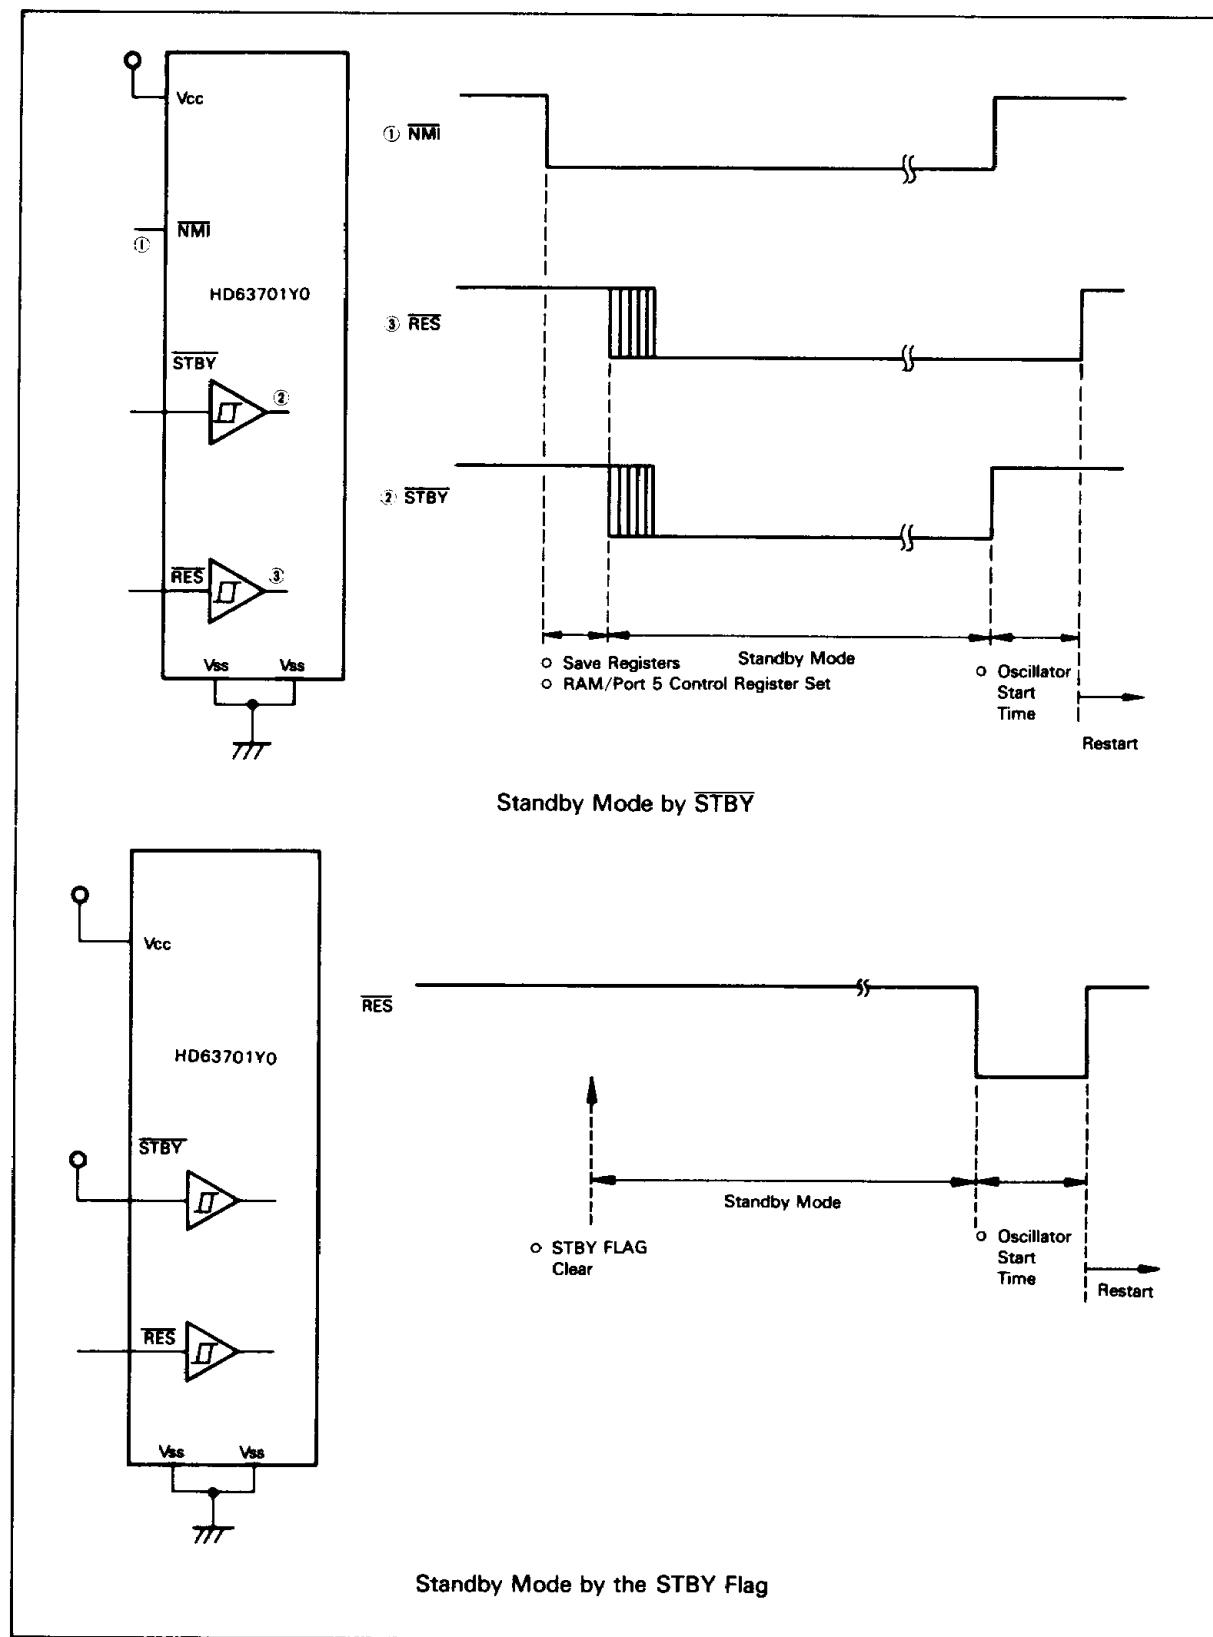

Figure 5. Standby Mode Timing
**Standby Mode**: The MCU goes to standby mode when the  $\overline{STBY}$  signal goes low, or when the STBY flag in the RAM/port 5 control register (RP5CR : \$0014) is cleared by software (figure 5). In standby mode, power dissipation is reduced to several  $\mu$ A.